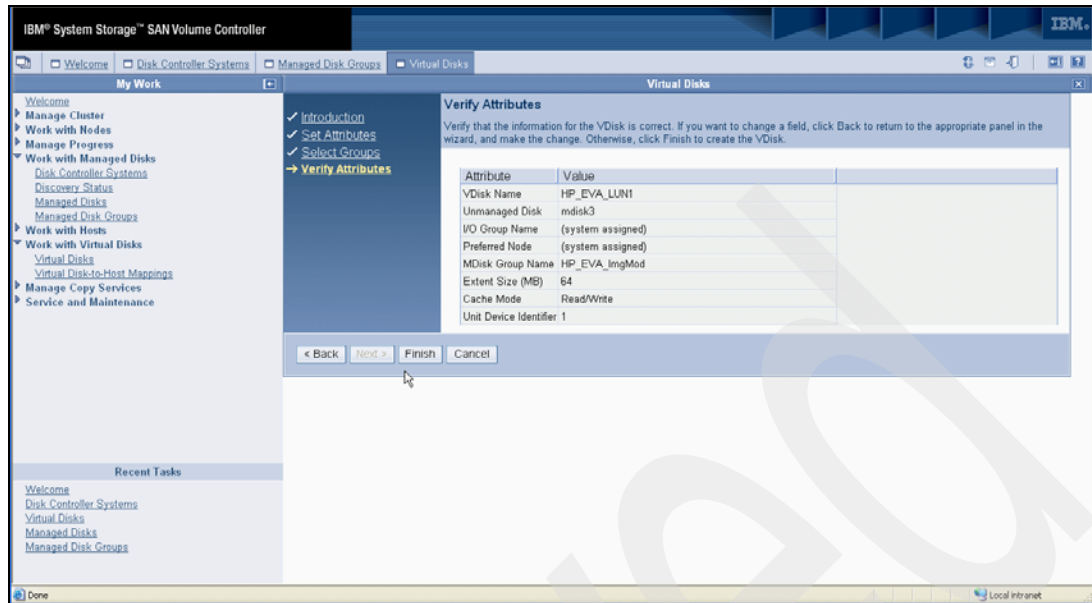

Figure 7-18 Create Image Mode VDisk verify attributes
10. On the final panel (Figure 7-18), carefully check all the parameters you have entered. This is your last opportunity to change the configuration before the Image Mode VDisk is created. If everything is in order, click **Finish**.